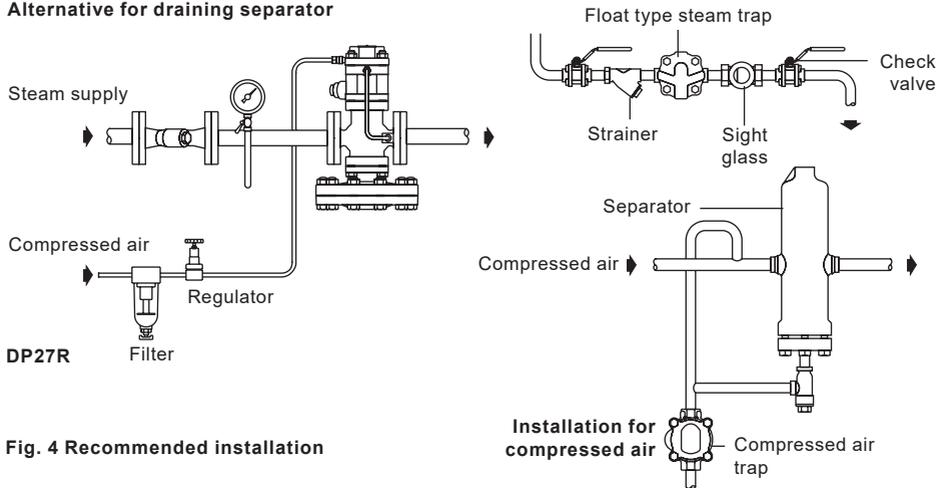
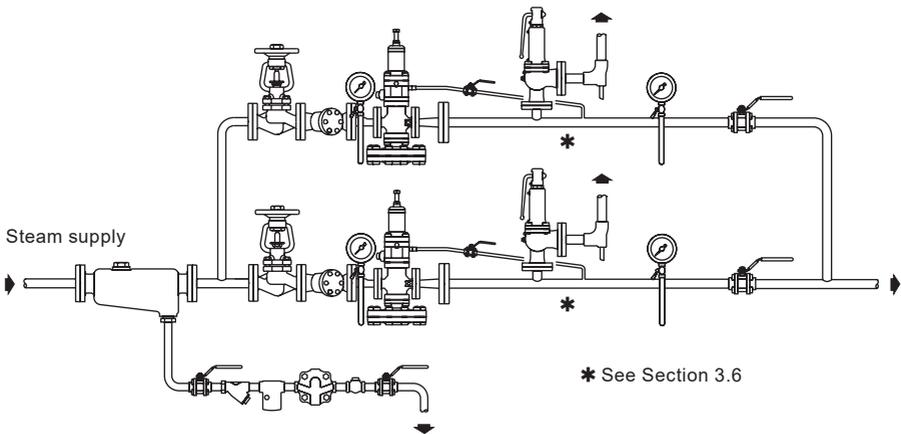
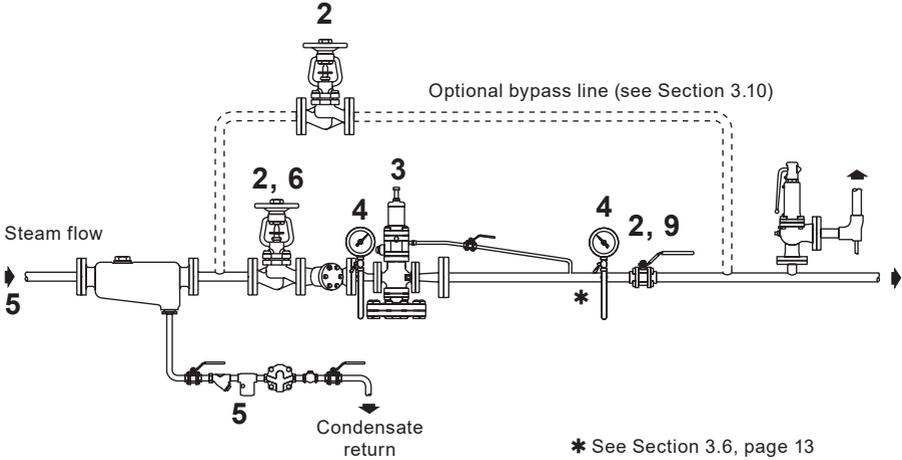
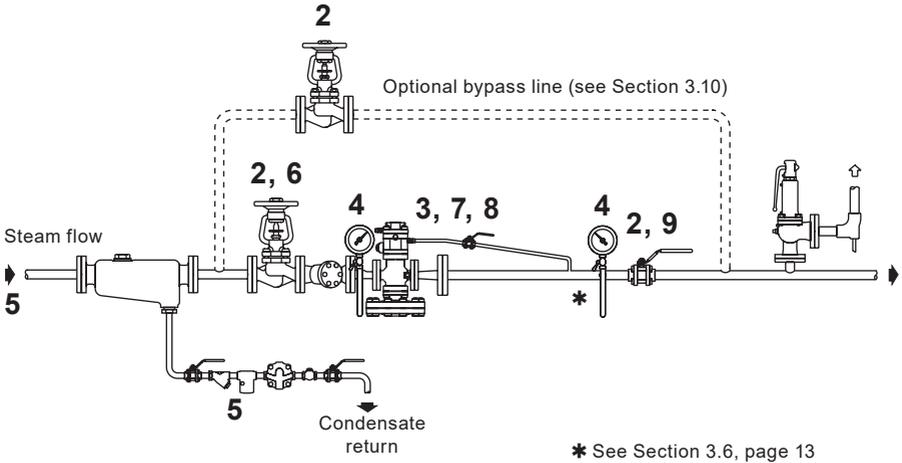

Fig. 4 Recommended installation
Fig. 5 Two pressure reducing valves in parallel
Fig. 8 Setting procedure sequence DP27, DP27E and DP27Y
Fig. 9 Setting procedure sequence DP27R
The actuating air supply controlled by the regulator should be connected to the union fitting attached to the air control block as shown in Figure 4. The air inlet connection is suitable for 6 mm O/D copper tube. The maximum reduced pressure available through the DP27R is 15 bar g. Typical installation is shown in Figure 9.
3.2 Fitting (Figures 4, 5 and 6)
The valve should always be fitted in a horizontal pipeline with the main diaphragm chamber below the line (Figure 4). To meet high capacities or widely varying loads, or where stand-by facility is required, two or more valves may be used in parallel (Figure 5).
For continuous duty applications where a constant steam supply is essential then a parallel stand-by PRV station is recommended to allow for planned maintenance, see Figure 5, page 13. Alternatively a bypass line can be used (see Figures 8 and 9, page 17). It is important that the bypass should have a similar capacity to the pressure reducing valve which is achieved by choosing an appropriately sized valve or by using a reduced orifice in the line.
4.1 Setting procedure (Figure 8 and Figure 9)
DP27, DP27E and DP27Y (Figure 8)
DP27R (Figure 9)